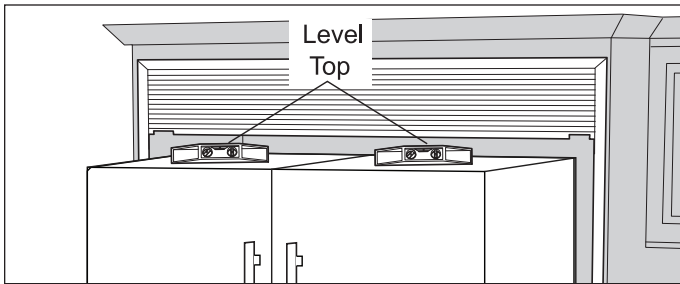

Figure 2-25.
1. Remove the plastic top hinge covers and replace with the supplied silver hinge covers (I).
3. Place a carpenter's level across the top of the door. Using a tape measure, adjust all four levelers so that each door is level and to a height of 69-3/8" across top front edge of door. (See Figures 2-25 and 2-26).
4. Place a carpenter's level vertically on the front of the door and level so that the front surface of door is vertical. Recheck to make sure top front edge of door is still at a height of 69-3/8". Adjust as necessary. (See Figures 2-25 and 2-26).